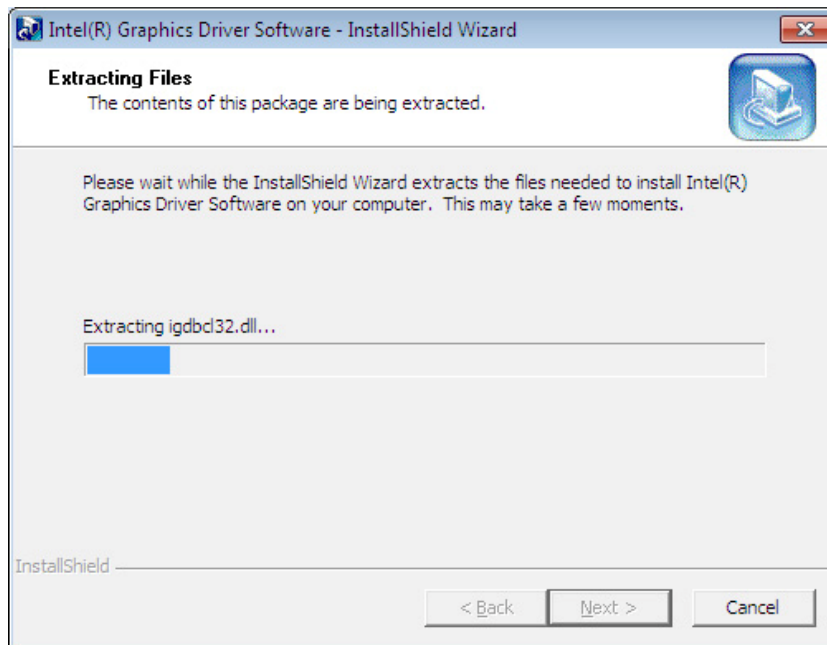

Figure 6-7: Graphics Driver – Extracting Files
Step 5: The InstallShield Wizard starts to extract files (**Figure 6-7**).